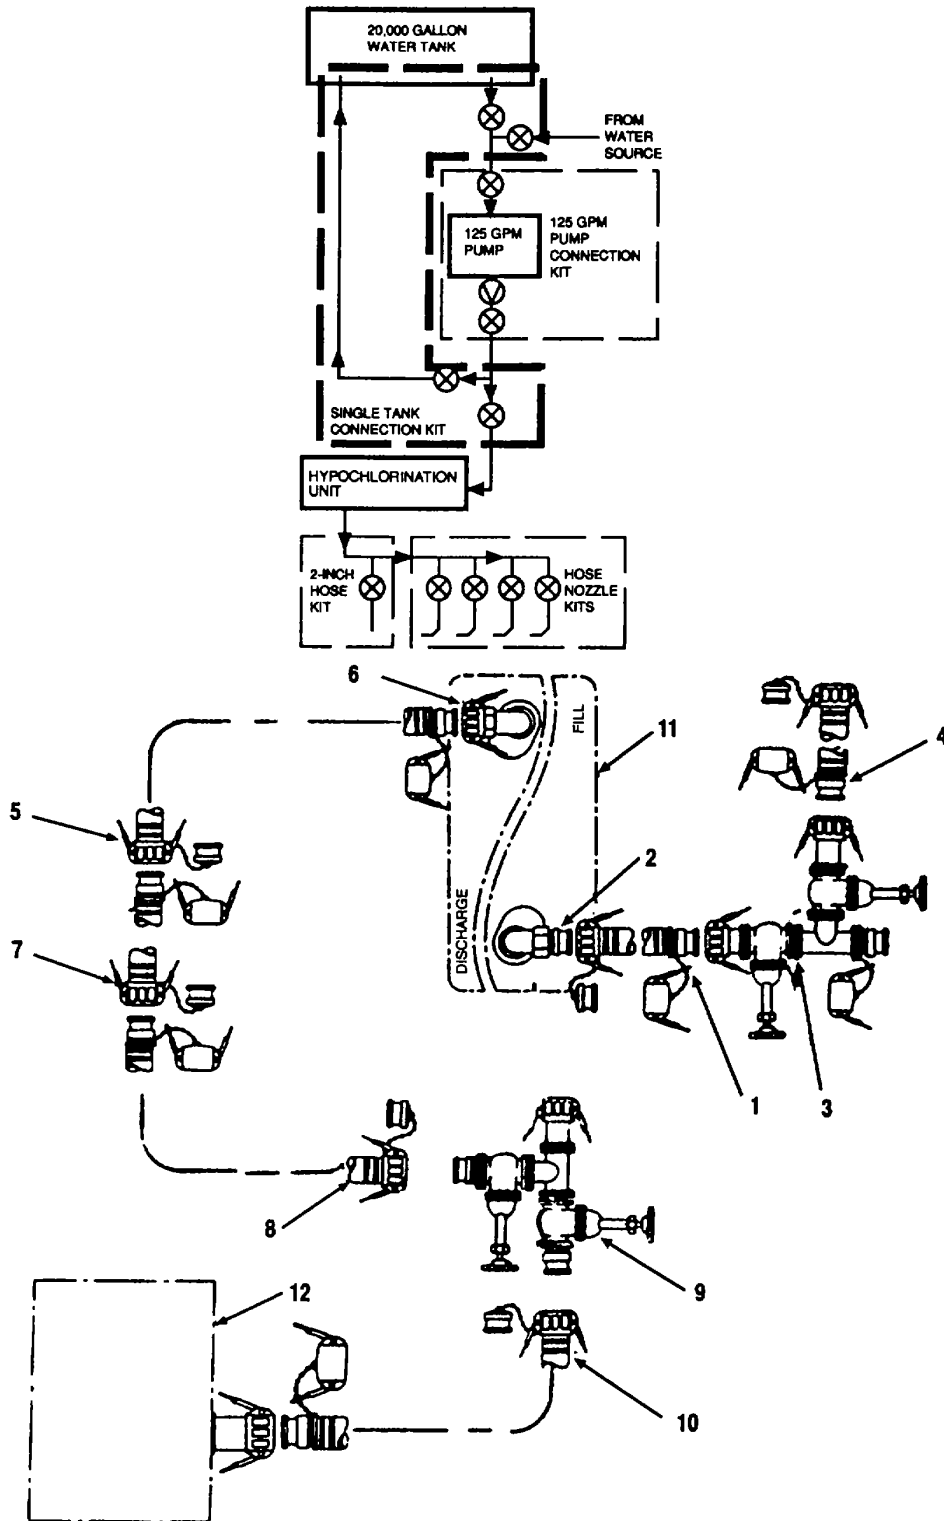

Figure 2-5. Single Tank Connection Kit Assembly
- (1) Place water tank in position at installation site.
- (2) Assemble and prepare water tank for use in accordance with the applicable TM.
e. Assemble Single Tank Connection Kit. (Refer to Figure 2-5)